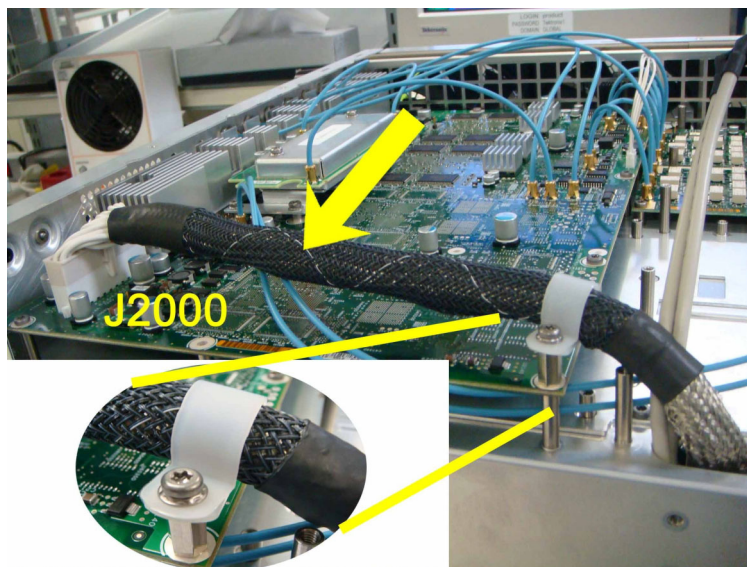

Figure 28: Cable post on the AWG1G board (2 CH)
3. Remove the screw securing the cable post to the AWG1G board. (See Figure 28.)